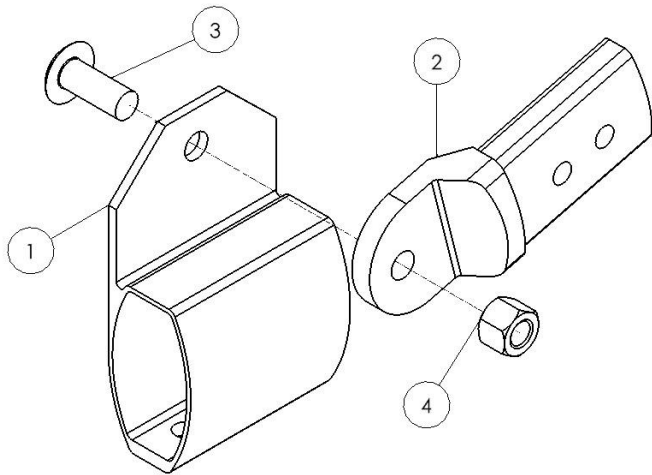

Figure 1.4
If the tension bow mounting bracket (1) and tab (2) are not already assembled, use the 1/2" bolt (3) and nylock nut (4) to connect the tab to the mounting bracket as shown in Figure 1.4.